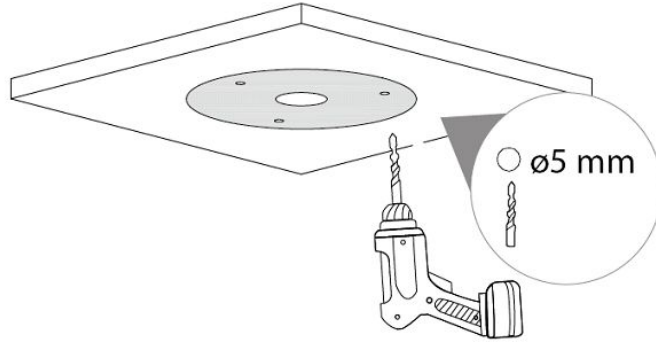

Figure 2-1
Step 1 Use the supplied position map and adhere it to the mounting surface. Drill the appropriate pilot holes for the expansion screws and cable exit if the cable will go through the mounting surface. See Figure 2-1.